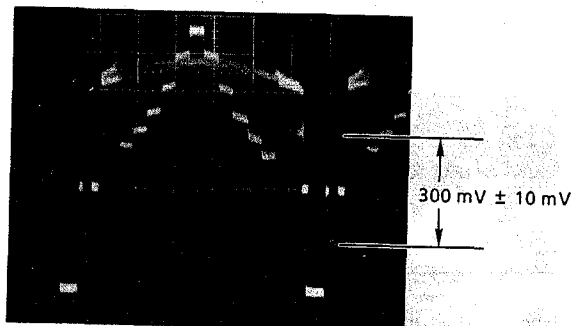

Fig. 4-9
- Adjust data by **ARROW** keys so that burst level becomes  $300\text{ mV} \pm 10\text{ mV}$  ( $42 \pm 1.4\text{ IRE}$ ) as shown in Fig. 4-9.